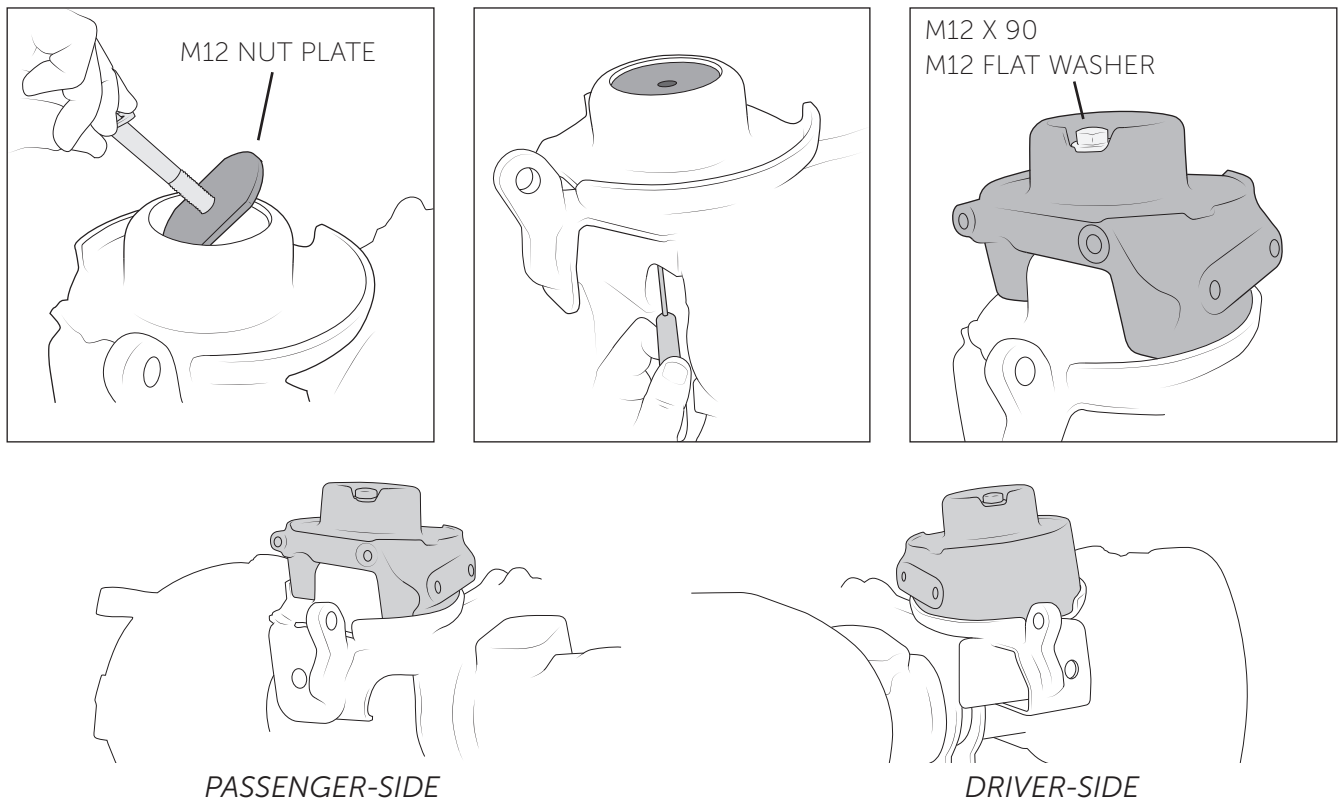

Figure 16
4. Install AEV coil spring mounts to the axle using hardware bag #2. Leave loose at this time (fig. 16).